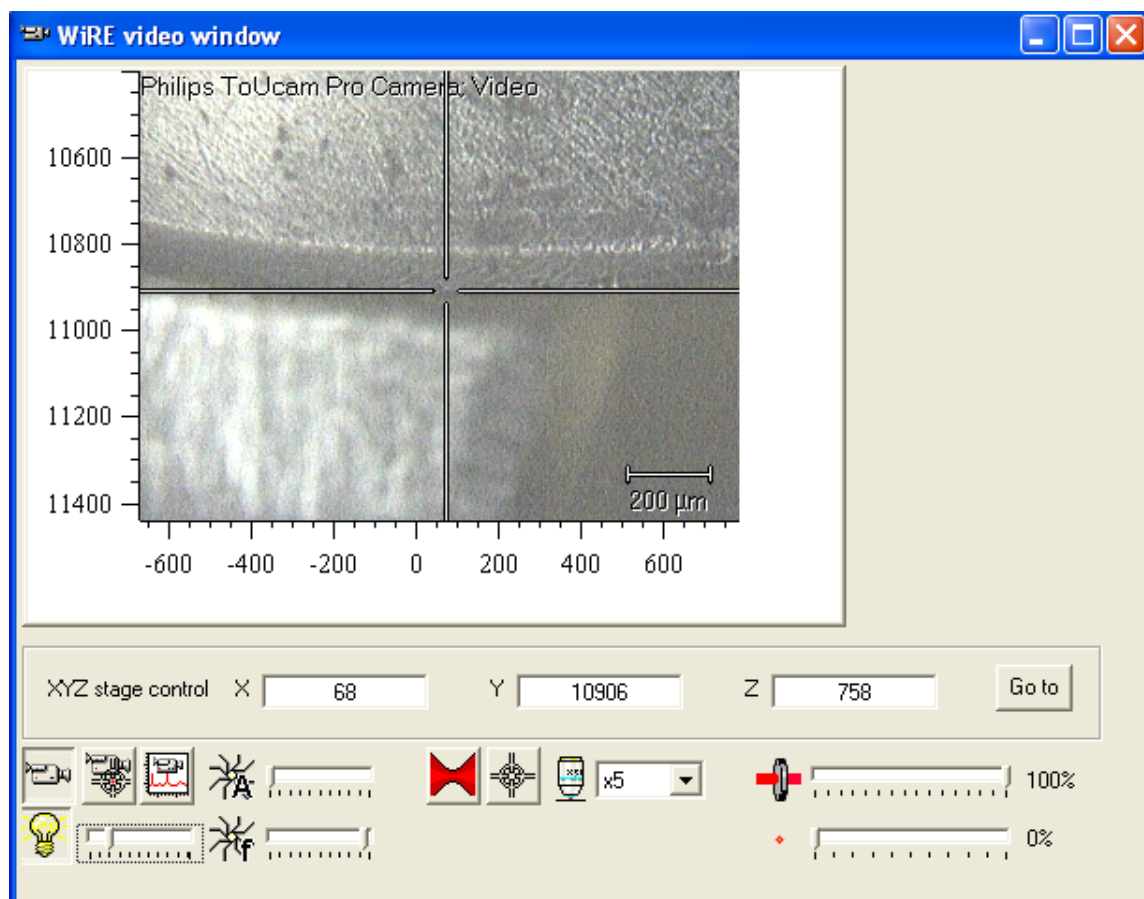

Figure 4 The bottom edge of well A1
5. Focus on the bottom edge of well A1. The x value should be the same, and the y different (Figure 4)
This procedure can be illustrated using the example below, based on Figure 4.